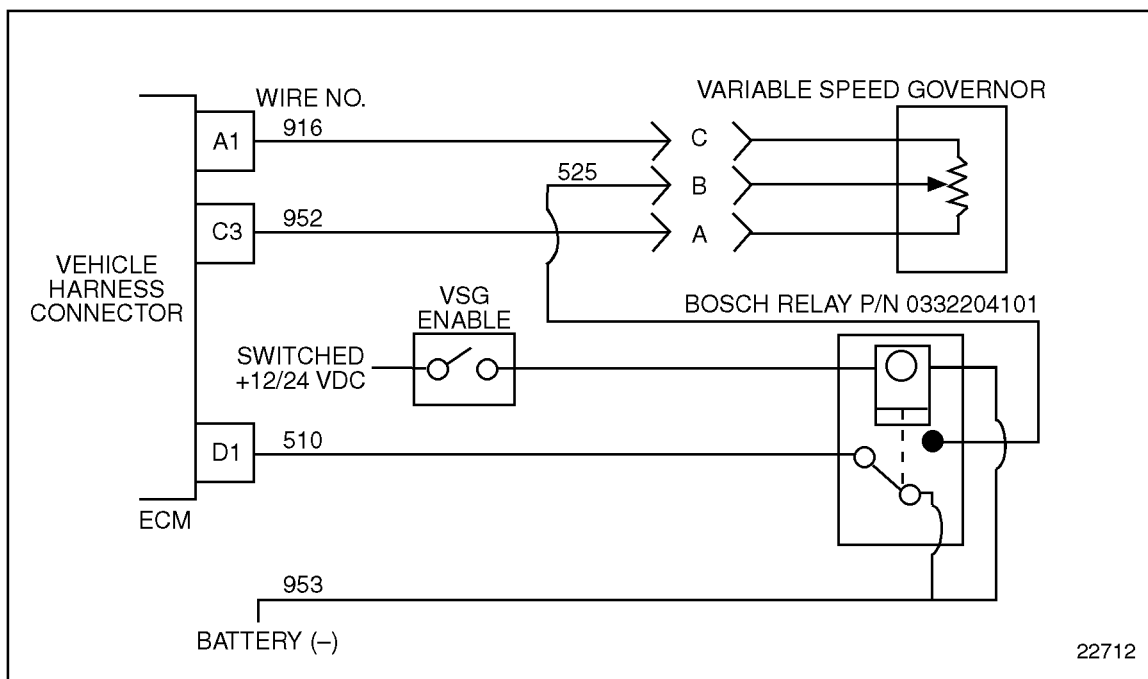

Figure 11-3 Variable Speed Governor Circuit
3. Measure voltage on the hand throttle sensor harness connector, socket C (5V #916, red lead) to socket A (return #952, black lead). See Figure 11-3.